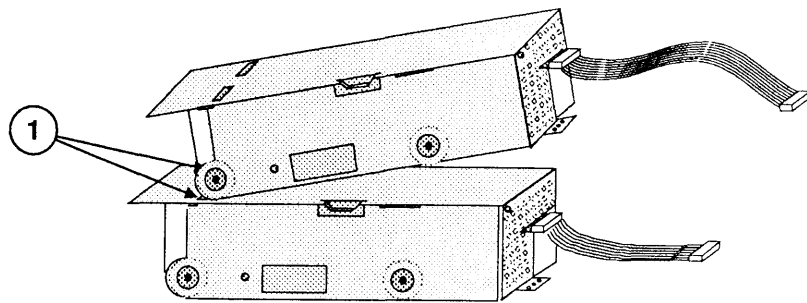

FIGURE 38
2. To place the upper drive into the chassis over the installed lower drive, slide the upper internal drive forward, then back over the lower internal drive so that the tabs on the top of the lower drive housing mesh with the holes on the bottom of the upper drive housing (Figure 38, #1).